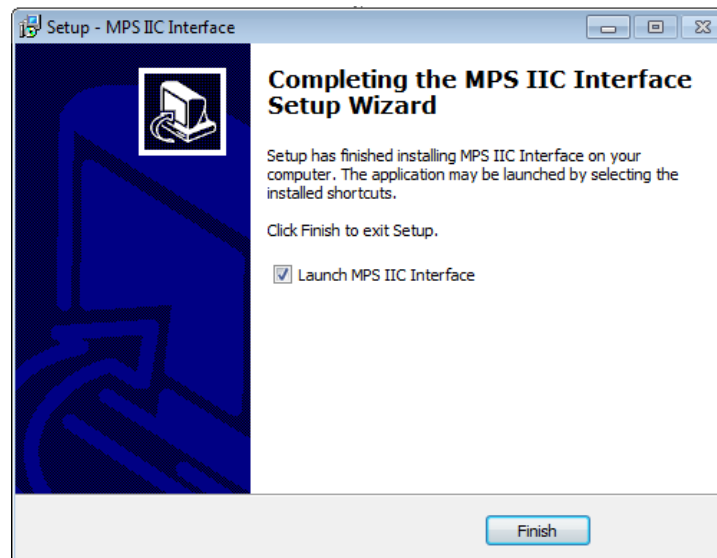

Figure 5: MPS I2C GUI Set-Up Success
5. Wait for the status screen to verify that installation is complete (see Figure 5).